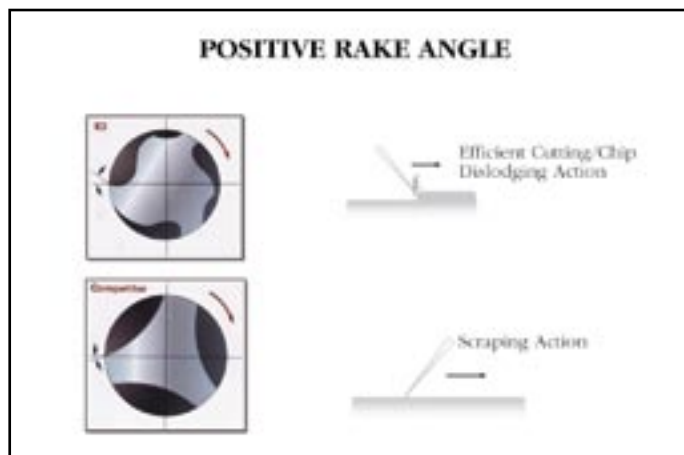

Fig. 21.1. The K3 has a positive rake angle providing an effective cutting blade.
- 2) A slightly positive rake angle (Fig. 21.1)